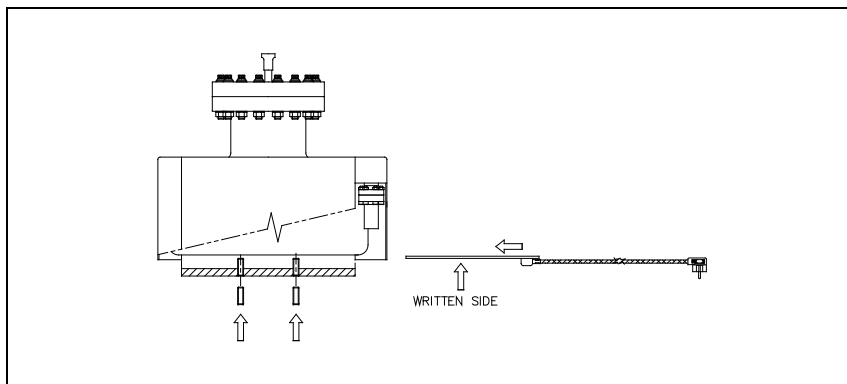

Figure 46 Aligning the heater and the screws
- 1 Align the heating element with the bottom of the pump (see Fig. 46). Be sure that the written heater side is towards the bottom.